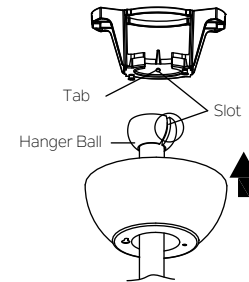

Fig. 10
Step 6. Now lift the motor assembly into position and place the hanger ball into the hanger bracket. Rotate until the "Check Tab" has dropped into the "Registration Slot " and seats firmly. (Fig. 10) The entire motor body should not rotate if this is done correctly.